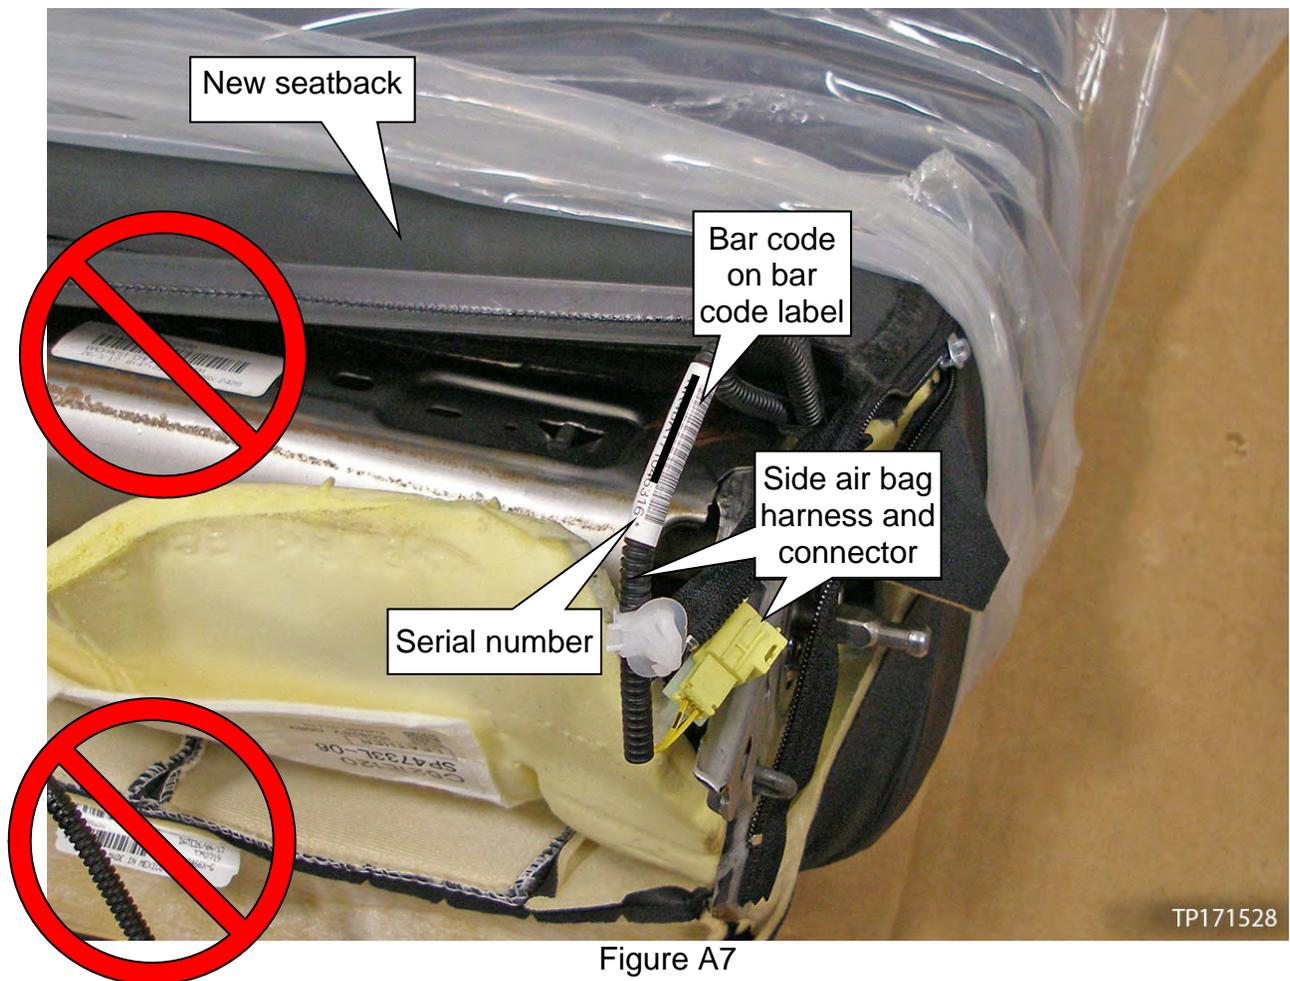

Figure A7
- Access the bar code label (see Figure A7).